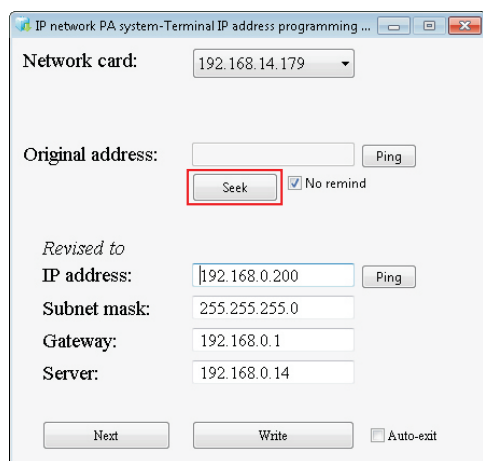
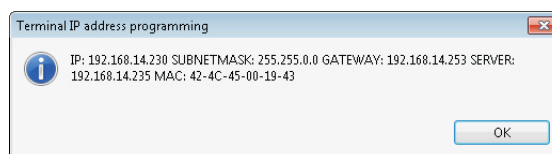

Figure 1
Figure 2
- 1) Use network cable connect the terminal LAN IN with computer internet access or interchanger connection. Open the computer "IP software " folder, select run "to run the server" program. Then choose run "configuration IP address" program, IN the pop-up dialog window, click the "query" button (figure 1), can query the terminal current IP address (figure 2), as shown in the figure below: